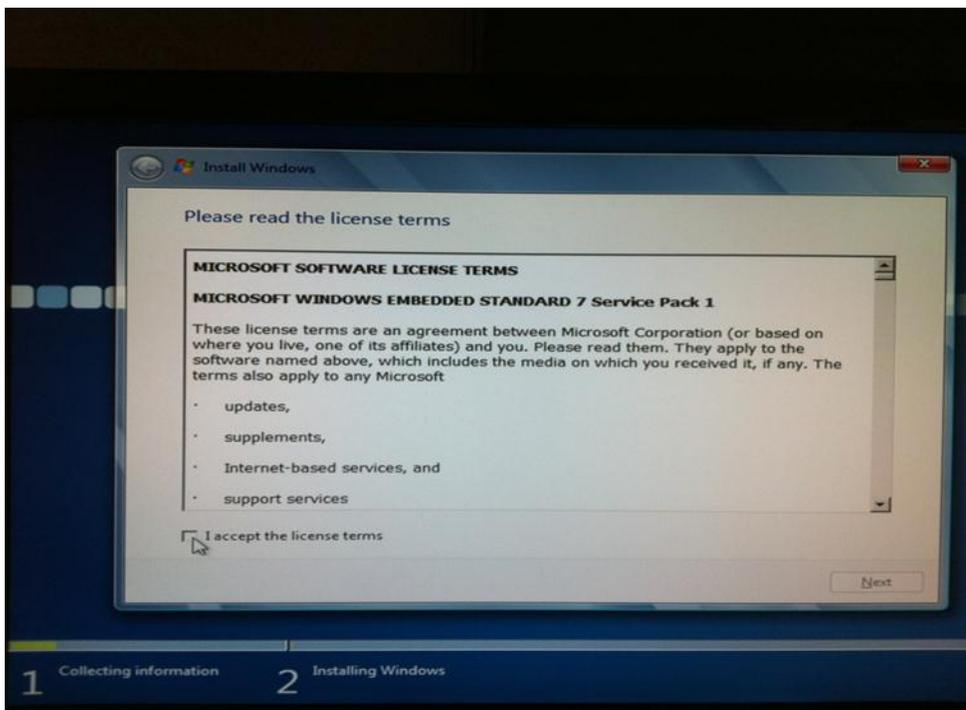

Figure 33: Accept the license terms
3. Read and accept the license as shown in Figure 33. Click Next